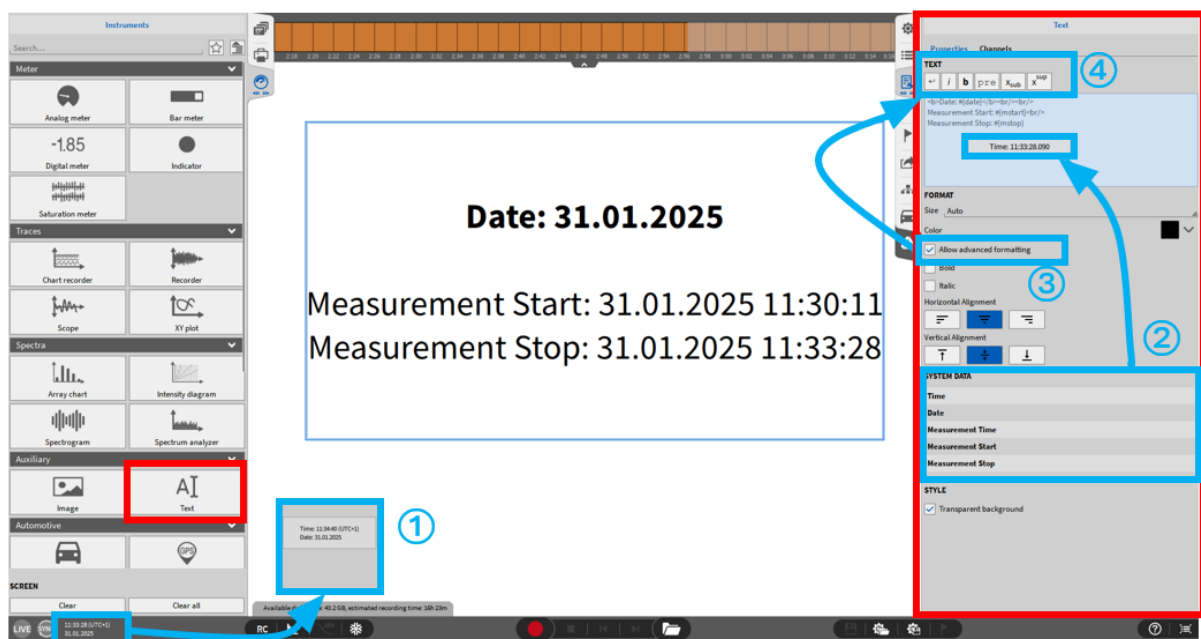

Fig. 8.34: Text instrument – overview
the *Color* square to bring up the color selection palette. The style can be adjusted to **Bold** and *Italic*. Furthermore, the horizontal and vertical alignment can be changed. The advanced text formatting options (see ④ in Fig. 8.34) for formatting only certain words or characters instead of the entire text must be activated via the checkbox (see ③ in Fig. 8.34).
1. The time and date display in the lower left corner can directly be dragged and dropped on the measurement screen (see ① in Fig. 8.34). A Textbox will be created automatically with the according time and date.
2. In the instrument properties the time, date and measurement time can again dragged and dropped into the text field (see ② in Fig. 8.34) or be added with a double click on the respective element.